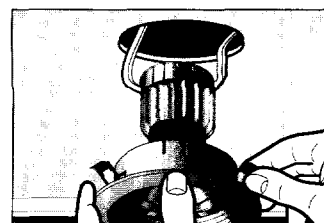

Figure 6
5. Compress springs and insert each fixture into opening. (see figure 6)